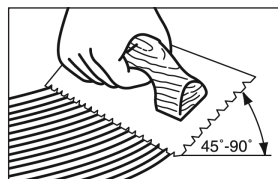

Figure 9
- Hold trowel at a minimum 45° angle (Figure 9) firmly against the subfloor to obtain a 50-60 ft.² (4-5.5 m²) per gallon spread rate (20-30 ft.² per gallon for Taylor Endurance adhesive spread with listed trowels) The trowel will leave ridges of adhesive and very little adhesive between the ridges. This method will allow you to still see the chalk lines between the ridges and provide the recommended spread rate.